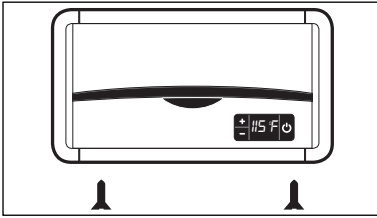

Figure 1 - Removing the Cover
- Remove the two (2) screws attaching the water heater front cover. Remove the front cover. (Figure 1.)